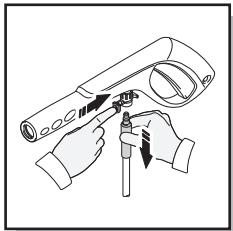
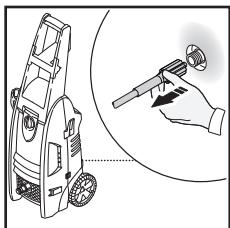

Fig. 22
Fig. 23
- Remove high pressure hose from spray gun (Fig. 22) and unscrew the other end of the high pressure hose from the power washer (Fig. 23).